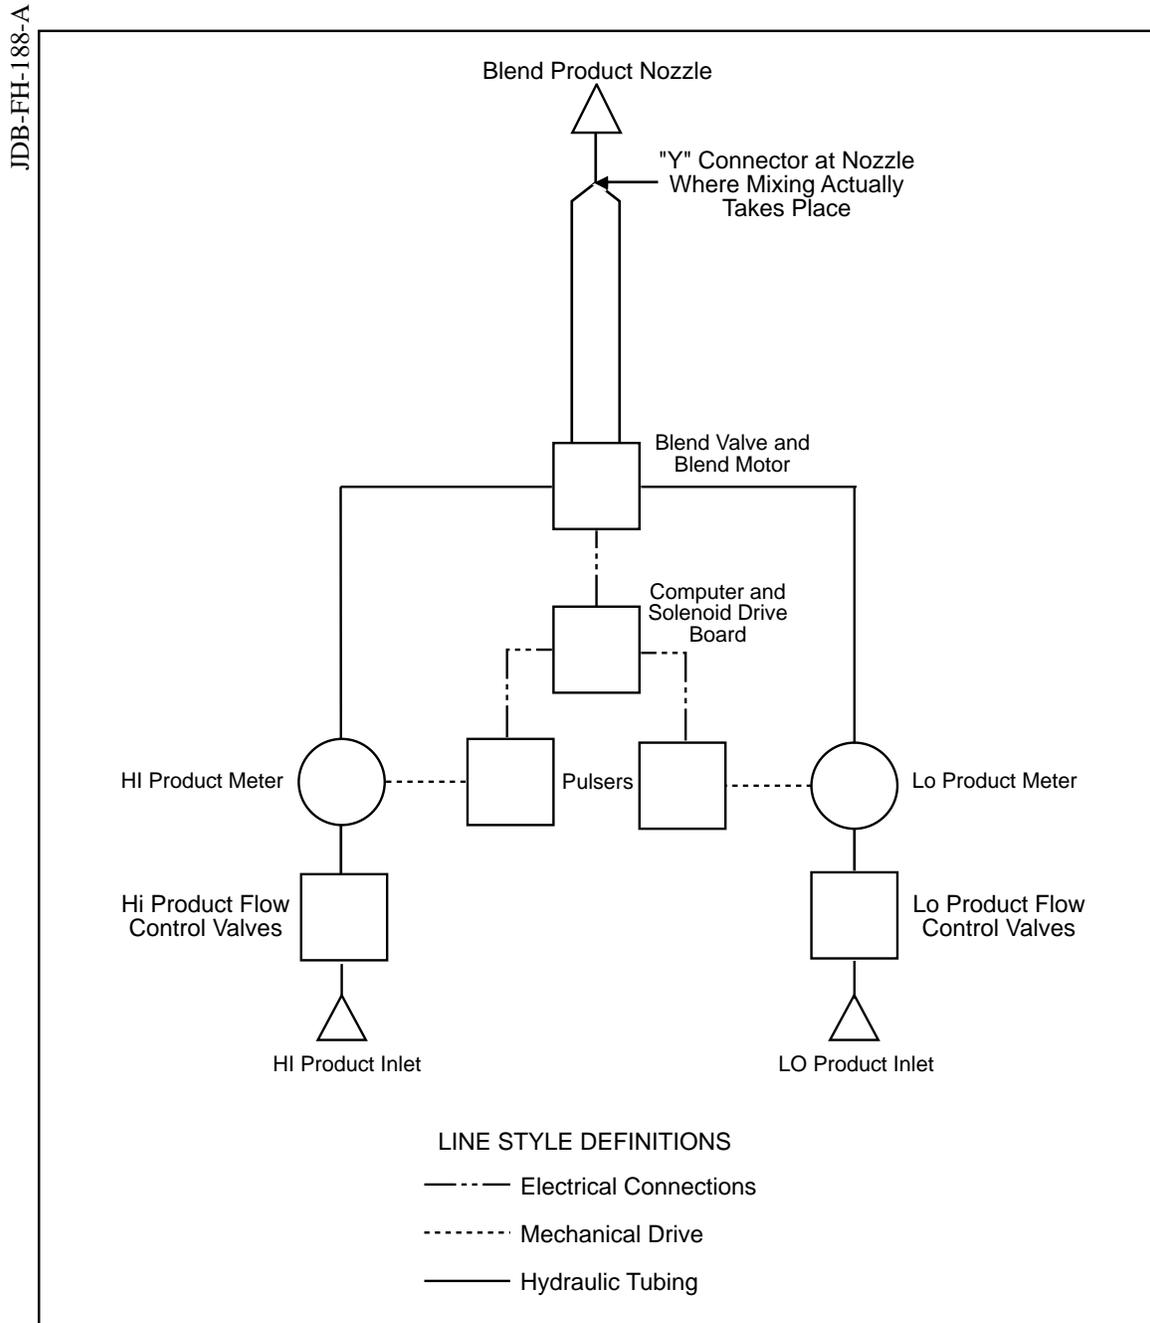

FIGURE 1-1. BLENDING BLOCK DIAGRAM
| Figure 1-1. Blending Block Diagram | 2 |
1.1. THE BLENDING PROCESS (see Figure 1-1)